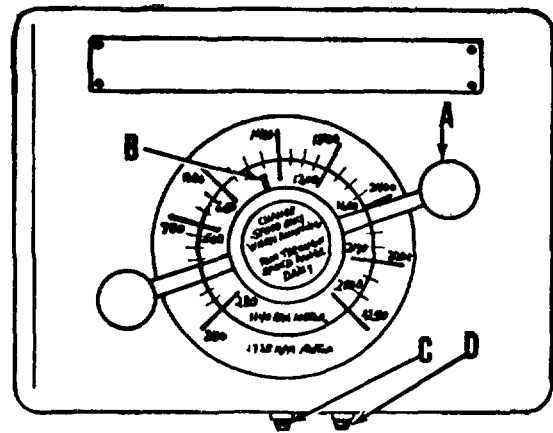

Figure 5. Pilot Wheel and Pointer
The pilot wheel (A) Fig. 5, for Variable Speed Drive should not be turned except when the motor is running, to avoid putting unnecessary strain on the variable speed drive belt and variable speed drive pulley assembly. The pilot wheel is turned clockwise to make the drill press run faster, and counterclockwise to slow it down.
While changing speeds the pointer (B) Fig. 5, on the speed dial will indicate the speed of the drill press.